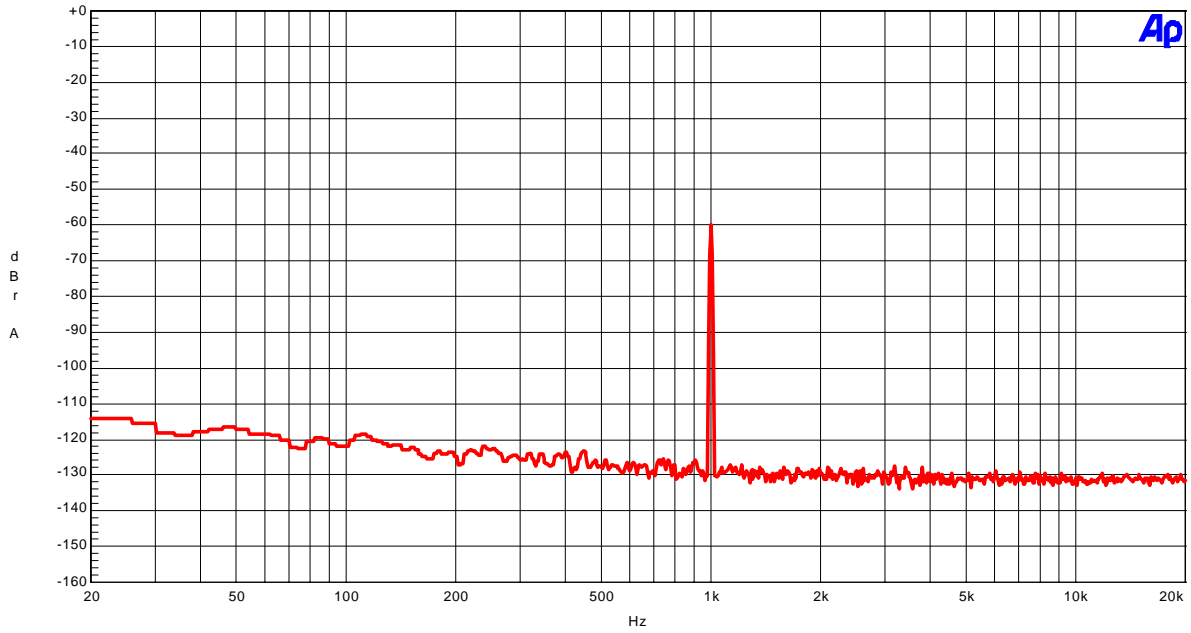

Figure 1-7. FFT (1kHz, -60dBFS)
- Figure 1-7. FFT (1kHz, -60dBFS)